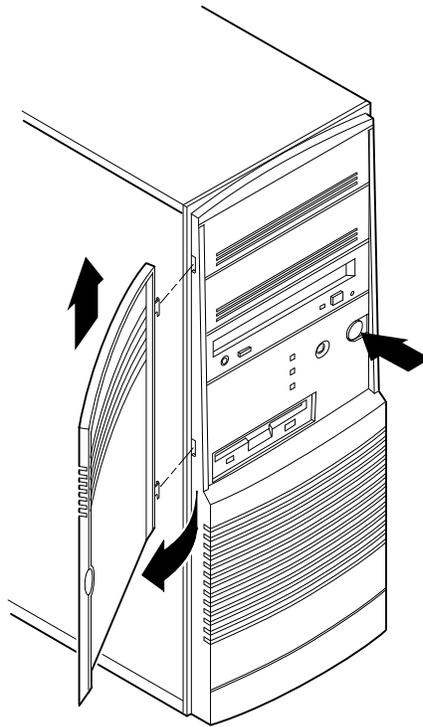

Figure 1-6. Starting Your System
1. Open the system unit front door and turn on the system unit power. Also, turn on the monitor power, and any external devices. Figure 1-6 shows the location of the system unit power button.
If you wish, you can remove the system door, as Figure 1-6 shows.